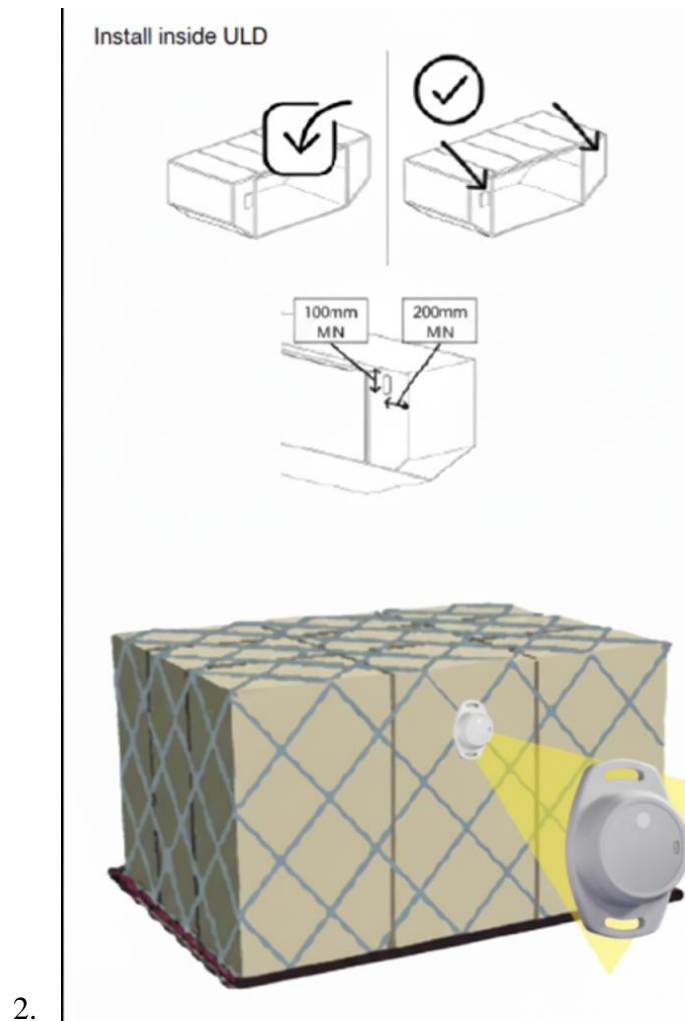

Figure 2- Installation of tags on ULD/Cargo Net
1. Take a GTA003 and install inside a ULD or attached to cargo netting as shown in Fig2.